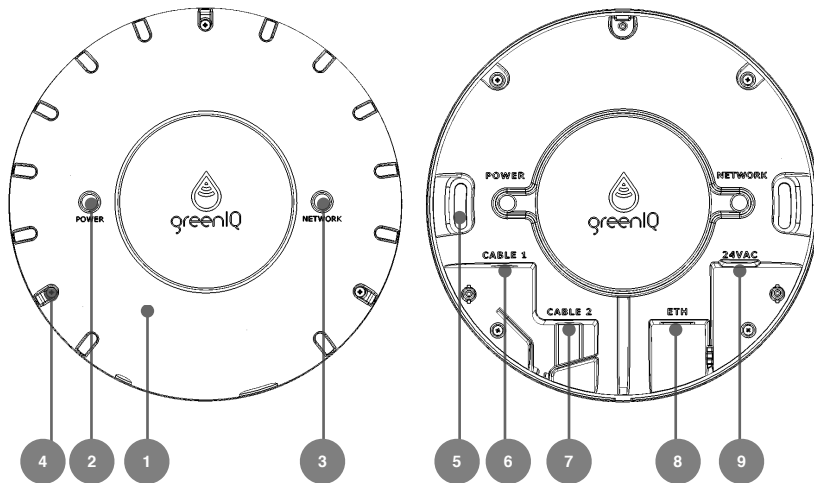

Figure 1
Figure 1 shows the GreenIQ Smart Garden Hub diagram.
1. Remove the GreenIQ Smart Garden Hub cover (see Figure 1).